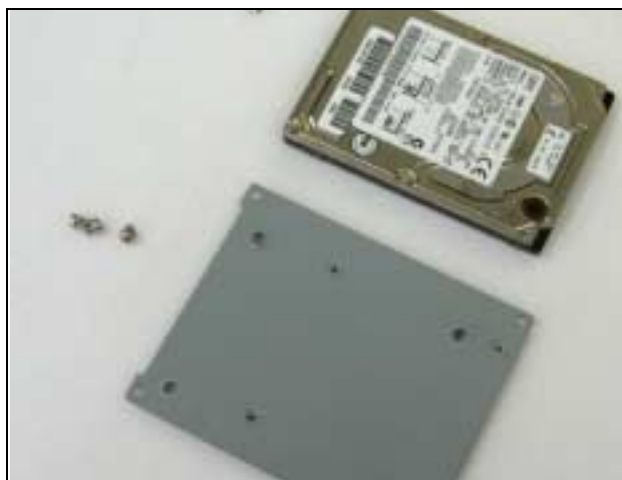

Fig. 2-16a A 2.5" HDD and the HDD bracket
1. Fasten the four screws to lock HDD and bracket together (**Fig. 2-16a, 2-16b**).